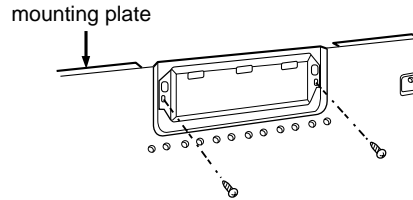

Figure 21
3. Securely tape or tack the upper cabinet template to the upper cabinet. See Figure 21.